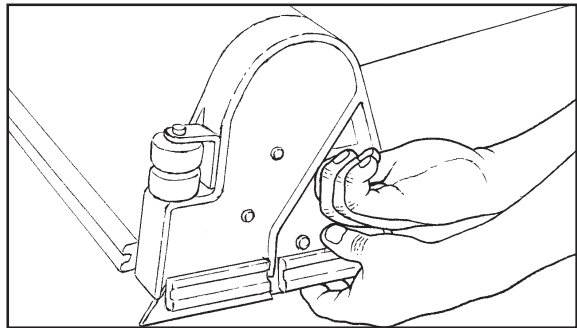

Figure 22
4. Go to front of the machine and remove thumb screw from brush door (See Figure 22).